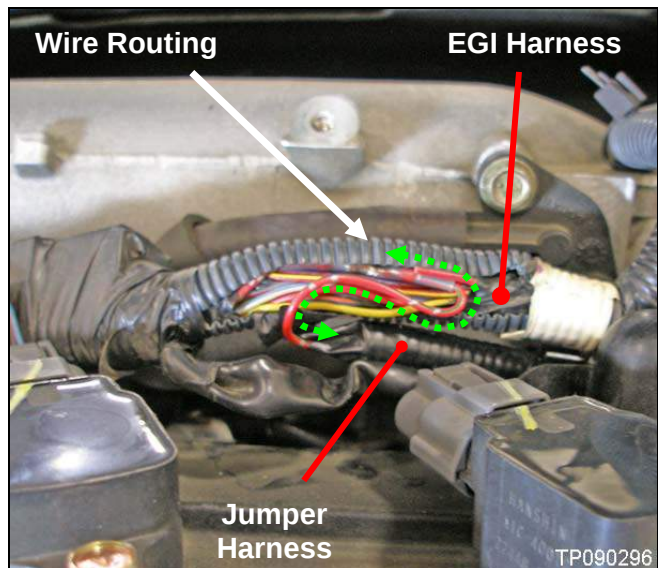

Figure 8
- g. Route the jumper harness's extra length of wiring on the inside of the COT (to allow taping it up in the area of the EGI harness) as shown in Figure 8.